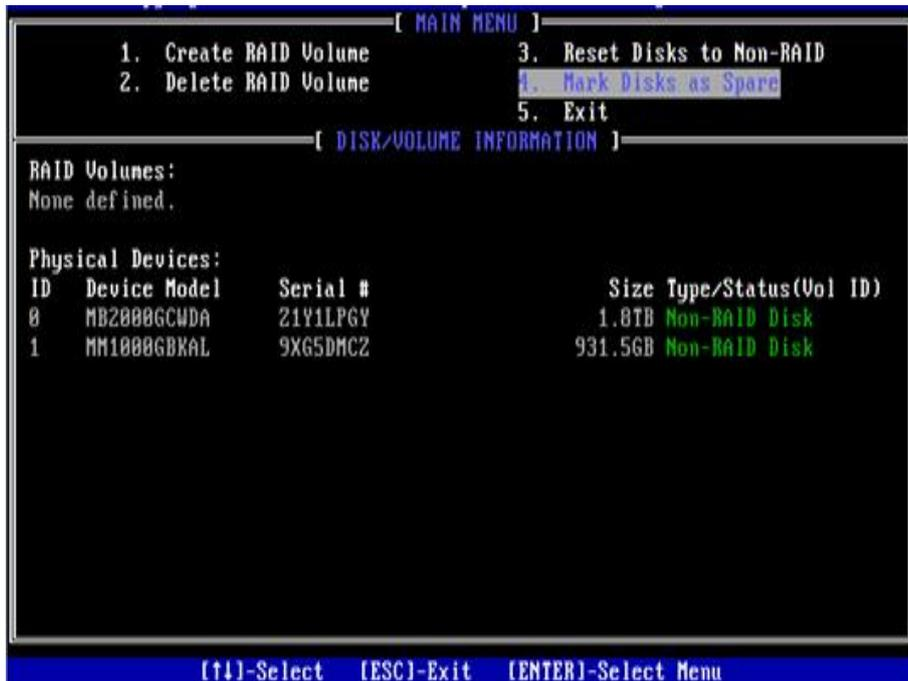

Fig.6.20
b) As shown in Fig. 6.20, select Mark Disks as Spare from RSTe configuration interface, press Enter.